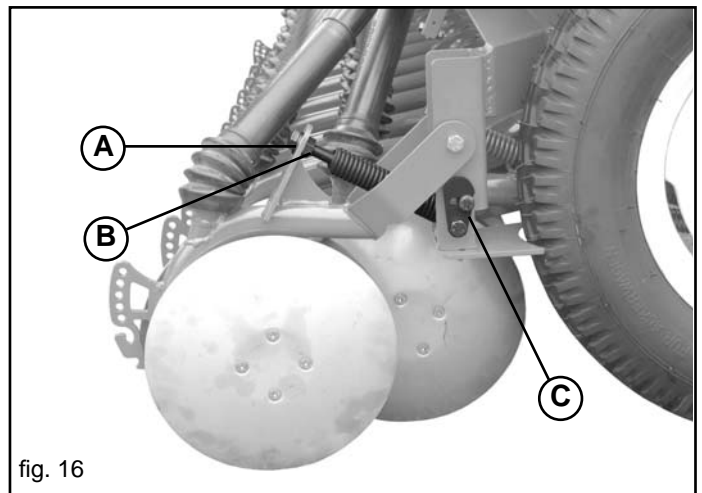

fig. 16
In the external rows raise or lower the pressure by adjusting the screw (A Fig. 16) and locking it with the nut (B).
In the outer furrowing parts, which work on the tracks of the seed drill wheels, adjust the working depth by changing the position of the limiting device (C, Fig. 16).